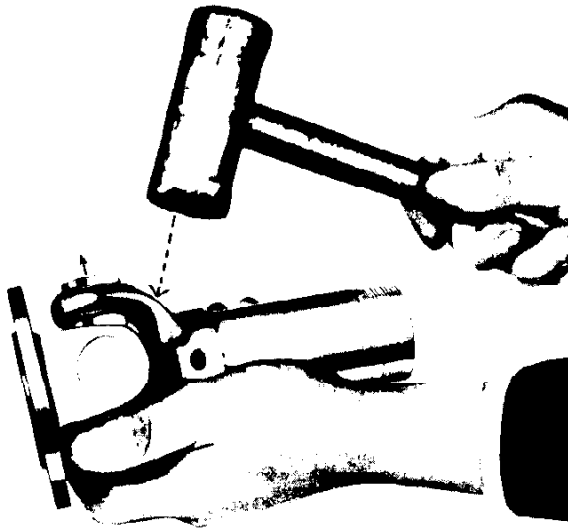

Figure I. 5.
1. DISMANTLING Figs. I. 5, I. 6, I. 7, and I. 8.